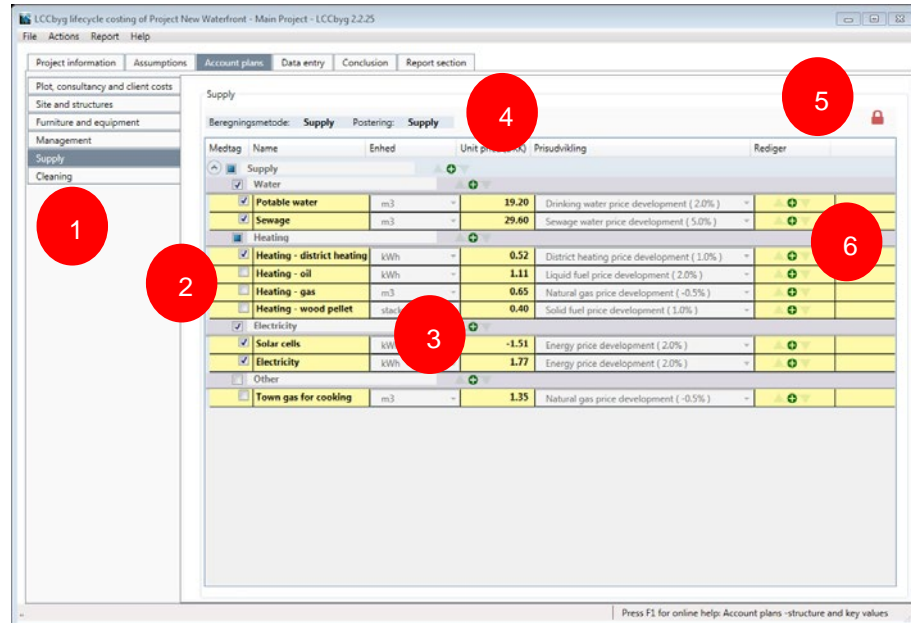

Figure 35. Overview of elements in 'Account plans'.
'Account plans' comprise six elements that will be explained below (Figure 35):
'Account Plans' are used for composing and customising your calculations for the actual needs. An LCCbyg project template typically consists of six account plans, which are found in the list on the left (Figure 35, item 1):
For each account plan, choose which cost types (rows) will be included in the actual calculation. You select/deselect cost types by clicking once in the small square to the left of the cost type. Once you have chosen cost types, they will appear under 'Data entry' where the specific values can be updated. Note that any updates are deleted when you deselect a cost type (Figure 35, item 2).
LCCbyg contains default values that can be used across projects (Figure 35, item 3). Default values can be found in four account plans under the standard template of 'Main Project': 'Site and structures', 'Furniture and Equipment', 'Supply' and 'Cleaning'. The values can either be born in the system (fields are coloured pink) or are entered as examples (fields are white).
At the top of the screen you will find a blue field indicating 'Calculation method' and 'Posting' (Figure 35, item 4). The calculation method refers to the method used by the application for the calculations. For example, under 'Site and structures', you will see that the method is listed as 'Acquisition, Operation, and Replacement'. This means that this accounting plan calculates acquisition costs, running costs and the replacement costs. 'Posting' refers to where costs will be entered. For example, under 'Site and structures' you will find that the item is entered as 'Acquisition, Bygning (D & V)'. This means that costs are entered under the main cost groups 'Acquisition' for acquisition costs and 'Bygning (D & V)' for operating costs and replacement costs (Figure 35, item 4).
The user can lock the structure of the account plan and default values. This will be relevant when the user wants to create a template to be used by colleagues or sent to external partners, such as an external consultant. The lock is activated using the green padlock that turns red when the account plan is locked (Figure 35, item 5).
Template groups ('Skabelongruppe') is a special feature that is useful when you want to create your own templates. Template groups are subgroups that automatically copy all their rows into a new subgroup (Figure 35, item 6).